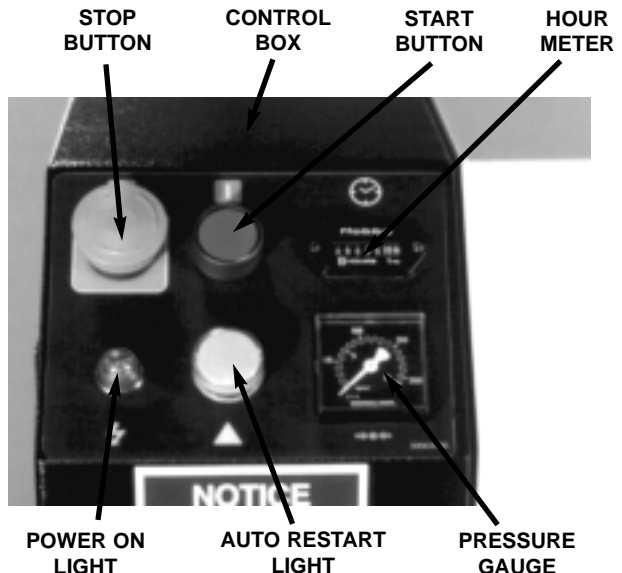

FIGURE 2.8-1 CONTROL BOX
1. Assure that Stop push button is in the OFF (depressed) position (See Figure 2.8-1).